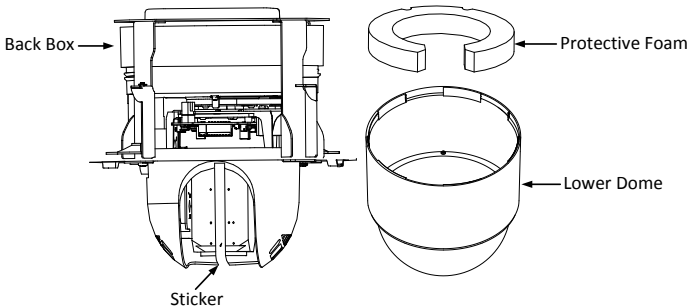

Figure 1-30 Remove the Protective Accessory
2. Rotate the lower dome counterclockwise to separate it from the back box as shown in Figure 1-30.